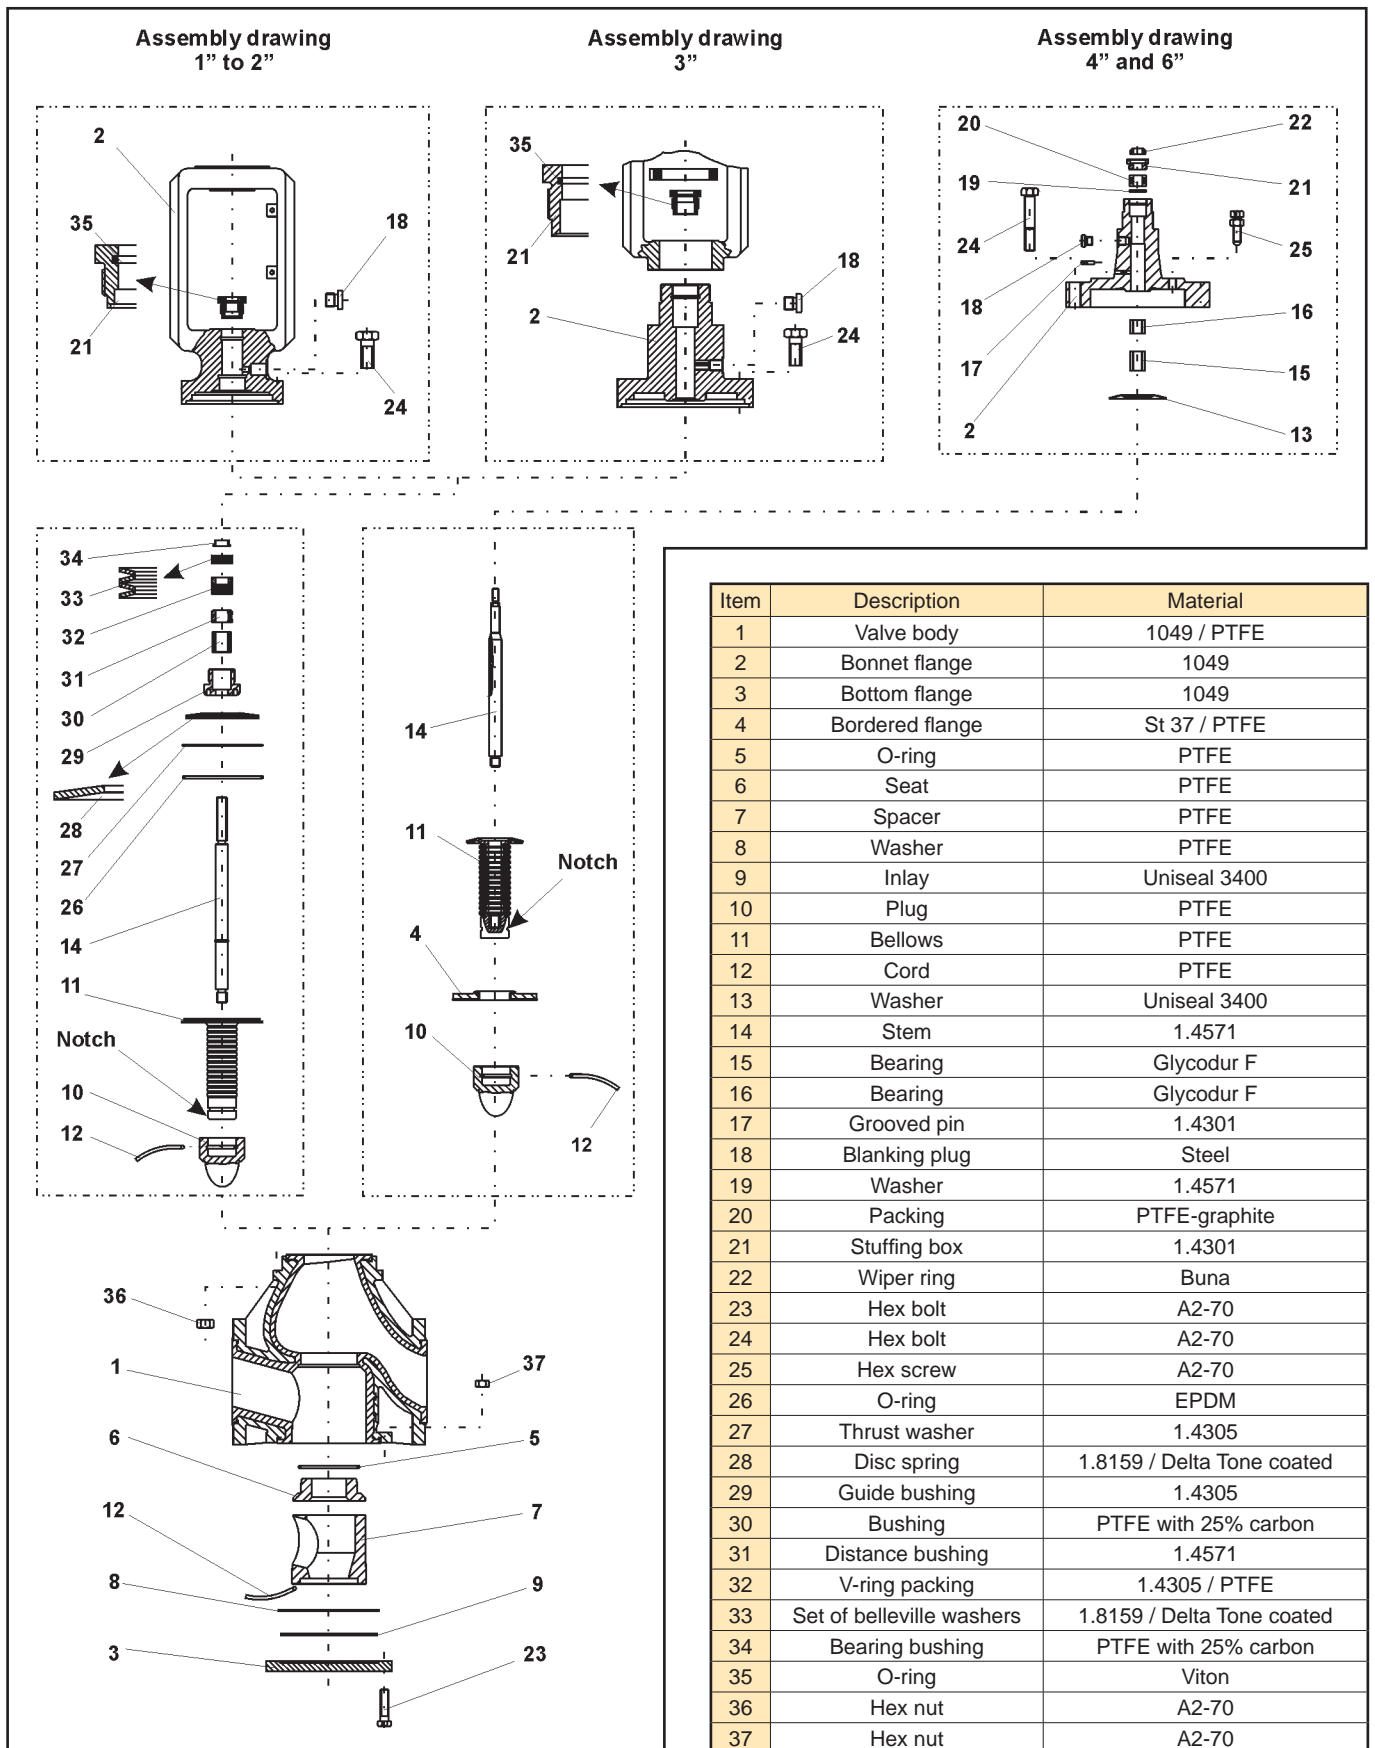

Fig. 8 - Detailed drawing of series 1a valve
Note! The position and arrangement of the individual parts shown in the detail drawing (Fig. 8) are to be observed during assembly.
Place the set of Belleville washers (33) into the borehole intended for it. Refer to the exploded view diagram (Fig. 8) for the arrangement.
Insert the disc spring (28), thrust washer (27) and O-ring (26) in the bonnet flange (2). Refer to the exploded view diagram (Fig. 8) for the arrangement.